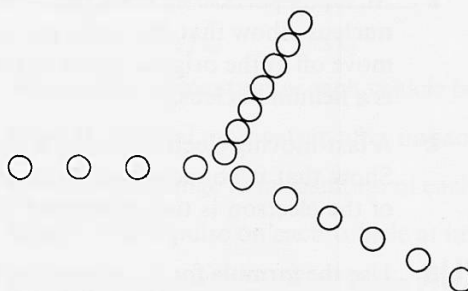

Figure A123
- 59(P)** The simulated multiframe photograph in figure A123 shows a moving puck colliding with a stationary one of equal mass.